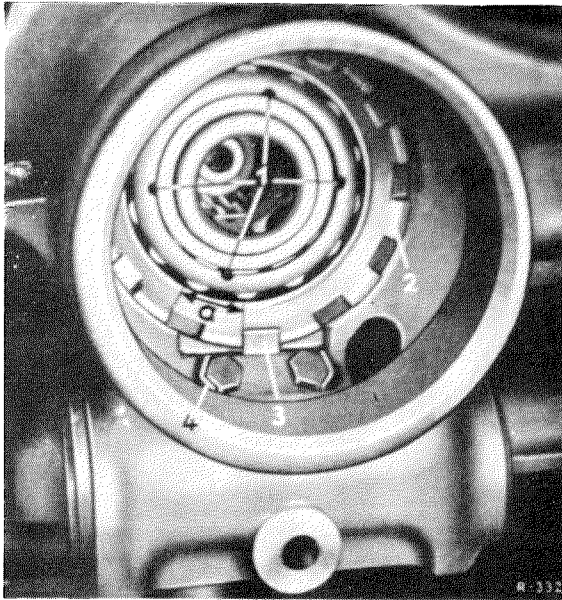

Fig. 35 — 4/37
97. In order to adjust the taper roller bearing properly, insert Special Pin Wrench 180 589 14 07 in the four recesses (1) in the roller cage of the right taper roller bearing (Fig. 35 — 4/37 and Fig. 35 — 4/38).